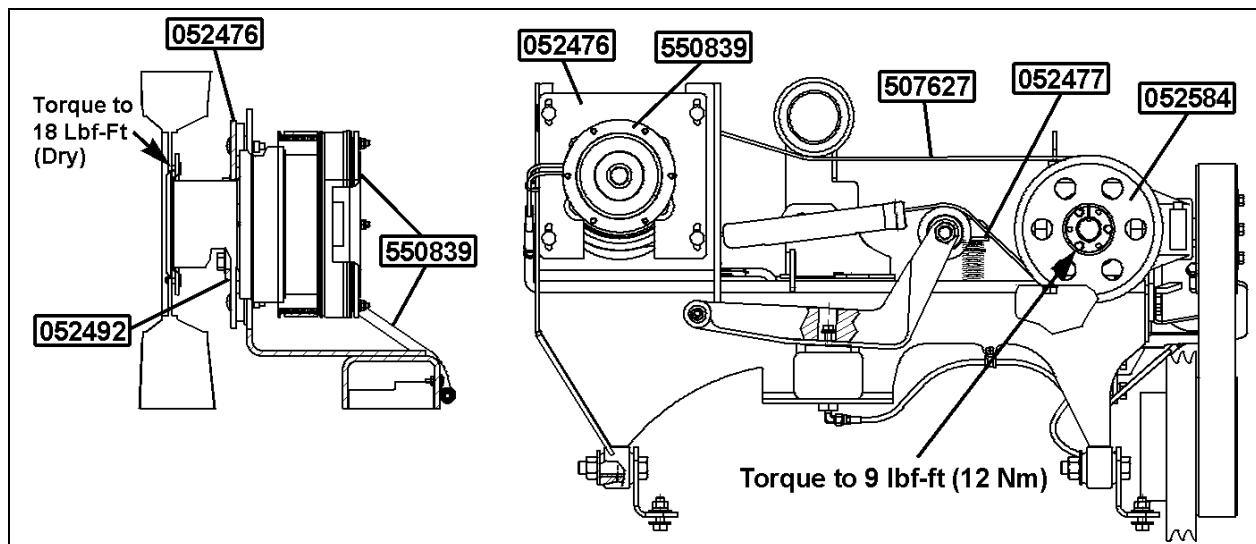

FIGURE 2
7. Temporarily put fan clutch (550839) down onto mounting base then fix support plate (052476) onto mounting base using new carriage bolts (502891) and former nuts. Install fan clutch onto support plate and temporarily secure using new washers (500444) and nuts (500680) (Refer to figure 2).
15. Install new pulley (059057) onto gearbox. Fix pulley coupling sleeve to mounting flange using key and 3 screws installed onto sleeve referring to plays indicated in figure 1. Torque 3 screws to 9 Lbf-ft (12 Nm) (Refer to figure 2).
16. Route clutch power cable along the mounting base as per figure 2. Fix power cable connector onto clutch support using nylon cable ties (504637). As needed, drill 7-mm holes in order to install quick mounting wire clamps (509815) (504637) so as to secure cable.